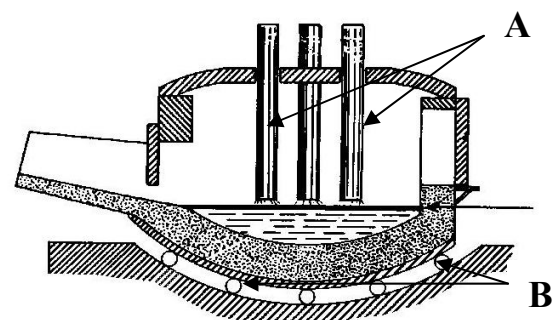

Fig. 4
- (a) Name the type of furnace shown in Fig. 4. (1 mark)